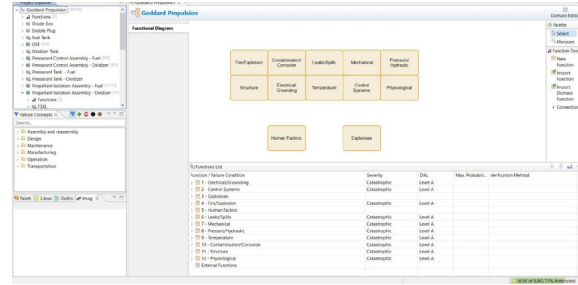

Figure B22: Example Functional Diagram of Twelve NASA Hazard Categories
- 2) Add a *Function* for each NASA hazard category (Figure B22) by right-clicking on the diagram or using the “New Function” button.